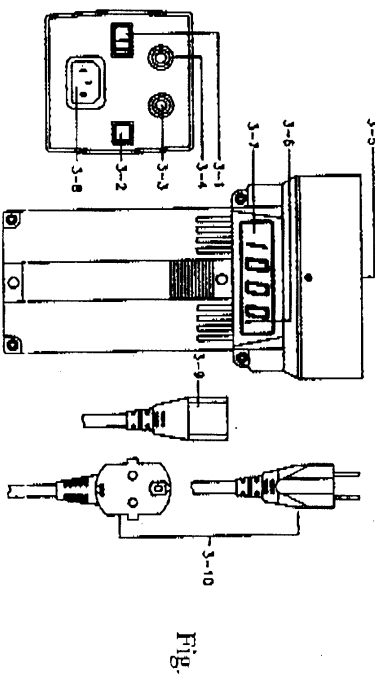

Fig. 1
a. Connect the " Power Cord Connector " (3-9, Fig. 1) to the " Power Cord Input Socket " (3-8). Plug the " Power Cord Plug " (Fig. 1, 3-10) into a properly grounded 110V AC, 220V AC or 240V AC outlet.
b. When checking the speed, care must be taken to ensure that the strobe is flashing in unison (one to one) with the object being monitored. Turn the " Fine Adjust Knob " (3-3, Fig. 1) or " Coarse Adjust Knob " (3-4, Fig. 1) until the mark look like " Stop " (synchronize).